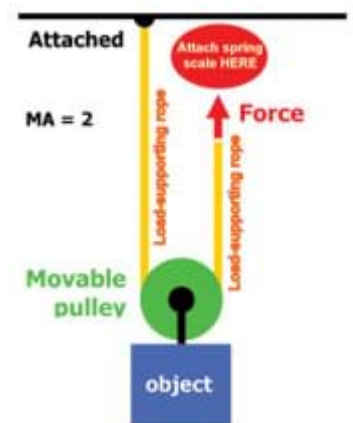

Figure 5. Movable pulley.
9. Next, create a movable pulley by attaching the pulley to the object (see Figure 5). If using pre-fabricated pulleys, attach with tape. If using spools, attach the pulley axle to the object with tape or string, making sure the spool still rotates freely.)
10. One student holds the string in place while another student lifts the object by pulling up on the spring scale string, as shown in Figure 5.